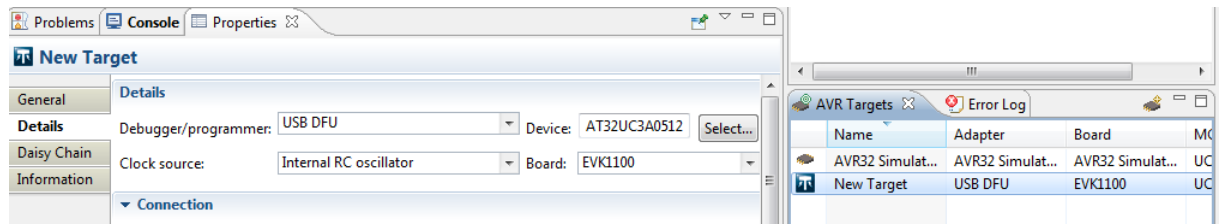

Figure 8. Target selection
Create new programming target as shown in Figure 8
- In the AVR32 target window create a new target as shown in Figure 8